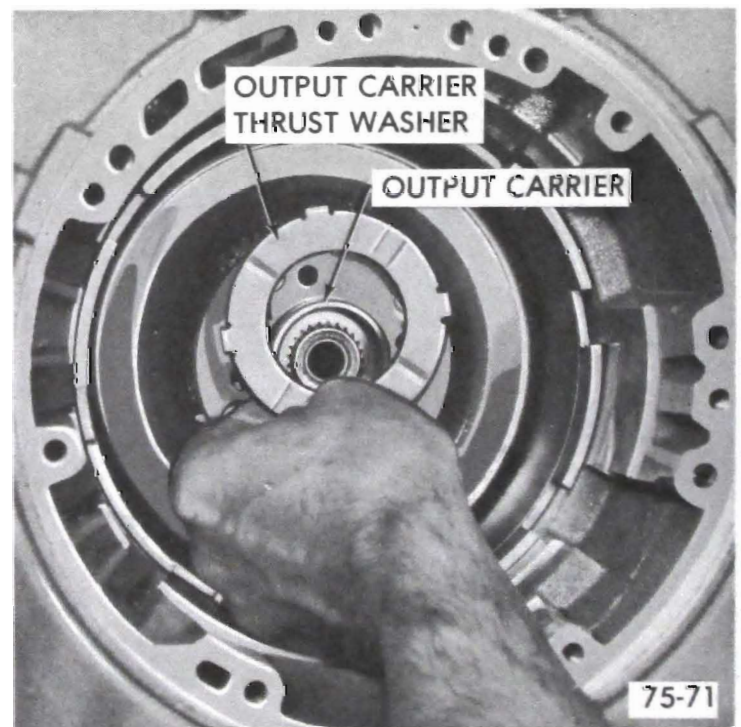

Figure 75-238
2. Install input ring gear to output carrier thrust washer. See Figure 75-238.